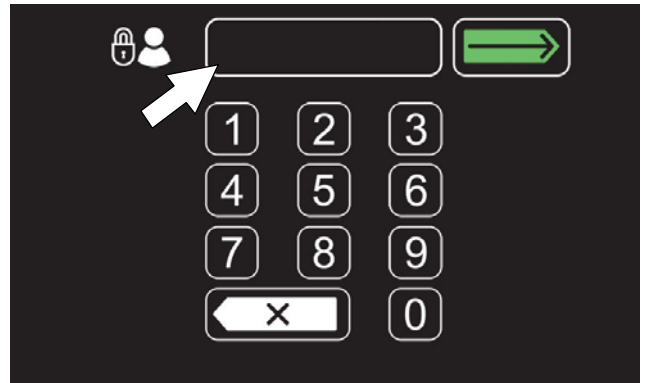

FIG. 173
6. Now at machine start up, the login screen will display (Figure 173). The user will need to enter their assigned login code to operator machine.